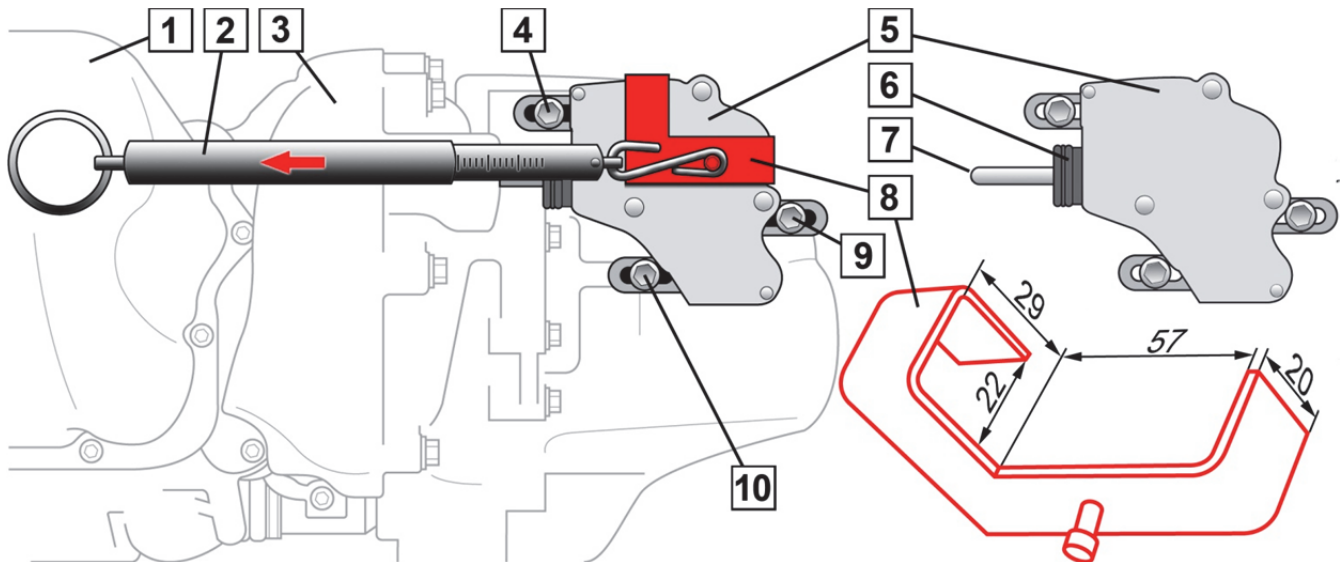

Fig. 1: Clutch actuator with spring scale for adjusting the pre-tensioning force
1. Position the clutch actuator (5) in such a way that the tappet (7) is resting securely on the tappet mount of the clutch release lever.
4. Place special tool (8) on the clutch actuator (5).
5. Hook spring scale (2) to the special tool (8) and tighten in the direction of the arrow (Fig. 1). Pre-tensioning force: **50 N**.
6. Hook spring scale (2) to the special tool (8) and tighten in the direction of the arrow (Fig.1).